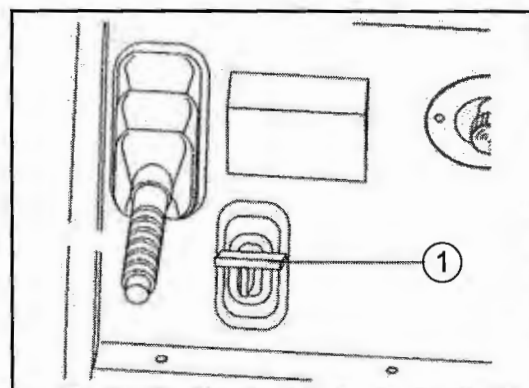

Fig. 17-2 - Rear Differential Lock Pedal
The differential allows the drive wheels to rotate at different speeds when the tractor is turning. The differential has a locking device, controlled by the pedal (1). (See Fig. 17-2). It is advisable to lock the differential in the following conditions only: